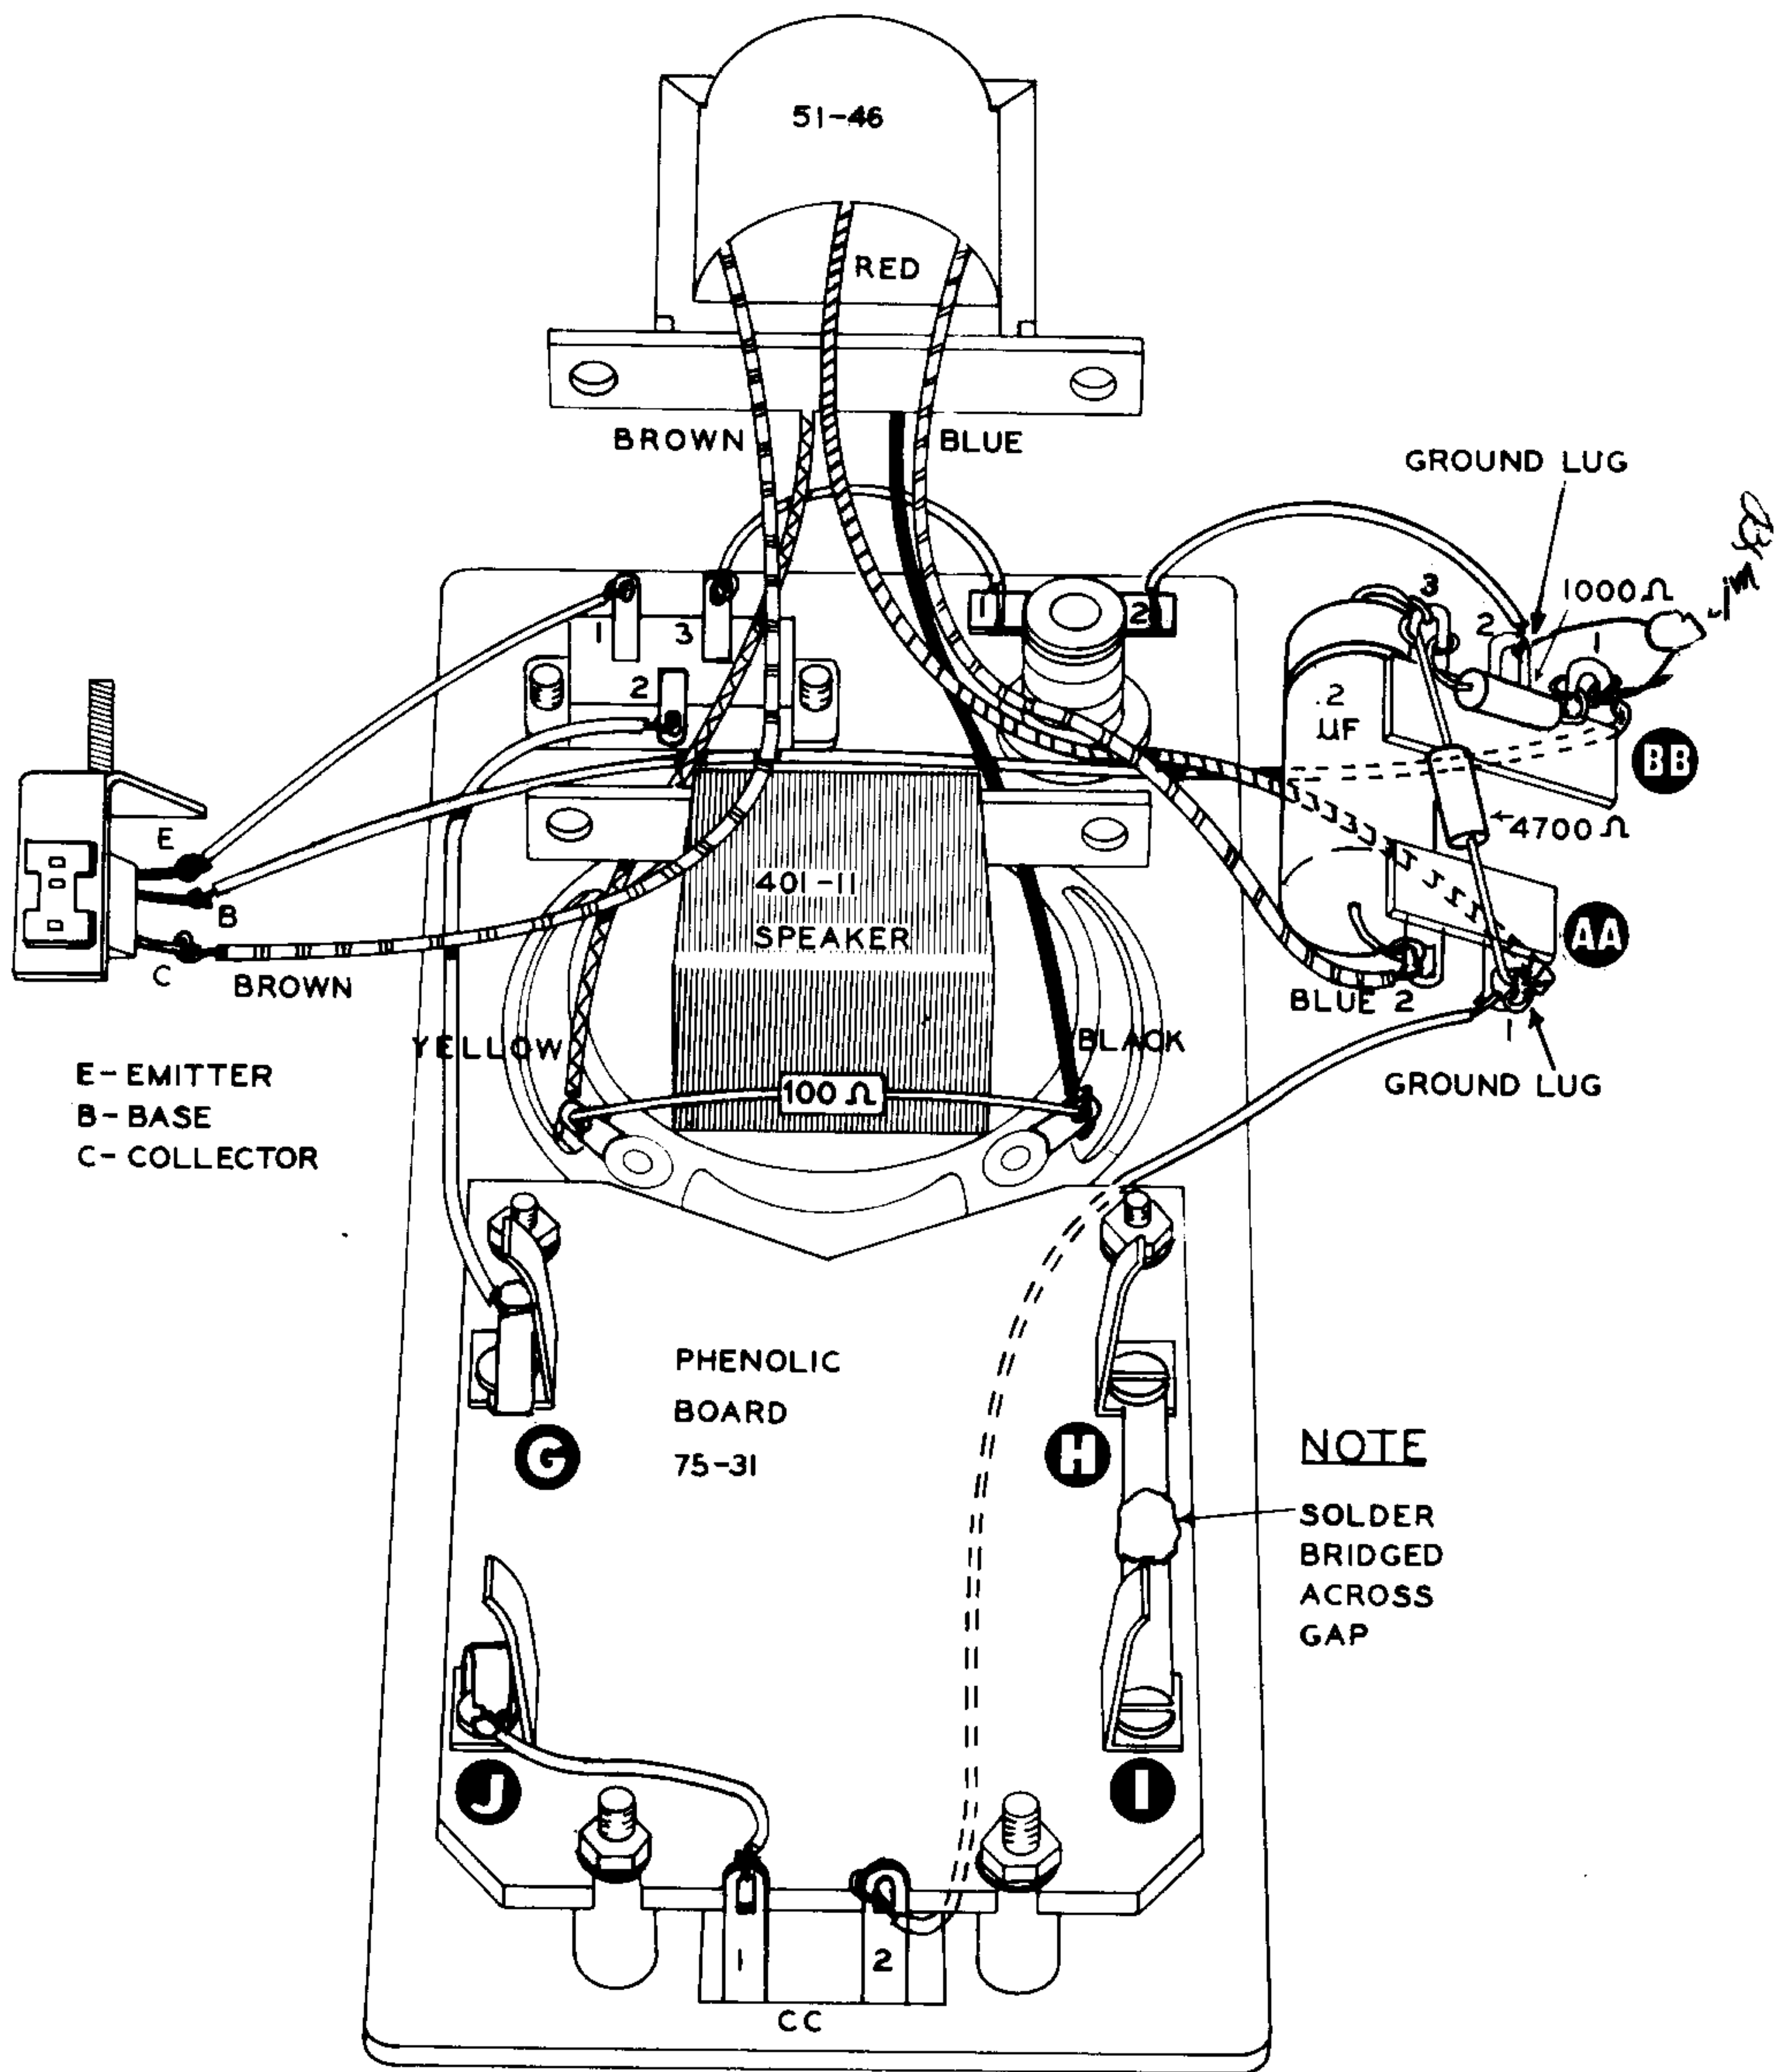

Figure 8
- () Cut a piece of hookup wire 4 1/2" long. Trim 1/4" of the insulation off the ends. Refer to Figure 8, route the lead under the phenolic board and connect to lug 1 on terminal strip AA (NS). Connect the other lead end to lug 2 on terminal strip CC (S-1).
- () Cut a piece of hookup wire 2" long. Trim 1/4" of the insulation off the ends. Connect one end to solder lug J on the phenolic board (S-1). Connect the other end to terminal 1 on the dual screw terminal strip CC (S-1). See Figure 8.
- () Cut a piece of hookup wire 2 1/2" long. Trim the insulation 1/4". Form a small hook at one end of the lead and pinch it tight around the emitter terminal of the transistor socket (S-1). See Figure 8. Connect the other end of the lead to the SPDT switch terminal 1 (S-1).
- () Form the brown lead from the transformer around the L bracket, as shown in Figure 8, and connect it to the transistor collector terminal (S-1).
- () Cut a piece of hookup wire 3 3/4" long. Trim the insulation 1/4". Form a small hook at one end of the lead and pinch it tight around the base terminal of the transistor socket (S-1). Route the lead under the transformer, as shown, and connect to lug 1 on terminal strip BB (NS). Refer to Figure 8.
- () Trim both leads on a 1000 Ω (brown-black-red) 1/2 watt resistor to 5/8" long. Connect one end to lug 3 on terminal strip BB (NS). Connect the other end to lug 1 on terminal strip BB (NS).
- () Trim both leads on a 4700 Ω (yellow-violet-red) 1/2 watt resistor to 1" long. Connect one end to lug 1 on terminal strip AA (NS). Connect the other end to lug 3 on terminal strip BB (NS).
- () Route the red lead, as shown in Figure 8, from the output transformer to the grounded solder lug 1 on terminal strip AA (S-3).
- () Trim both leads on the .2 μ f paper capacitor to 3/4" long. Connect one lead to lug 2 on terminal strip AA (NS). (Pull the capacitor up tight to the terminal strips and bend the lead ends around the lugs.) Refer to Figure 8. Connect the other lead to lug 3 on terminal strip BB (S-3).
- () Form a solder bridge across the two flat solder lugs H and I at the one side of the phenolic board, as shown in Figure 8. A 1/2" piece of bare wire could be used, soldered across the gap.